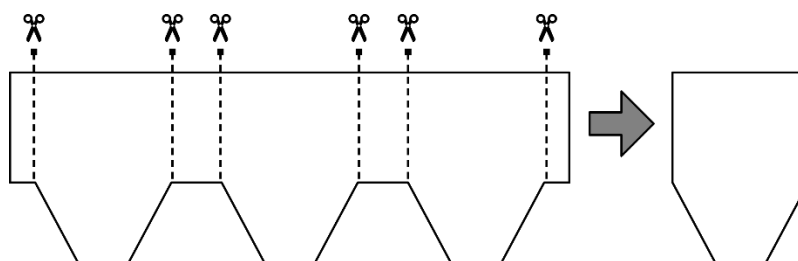

Fig. 10 - Ridge elements preparation
- Make the ridge elements by cutting each shingle, as shown in Fig. 10.
- Arrange the ridge elements by cutting vertical lines aligned to the tabs ending part. From each bituminous shingles can be made three ridge elements – Fig. 10.